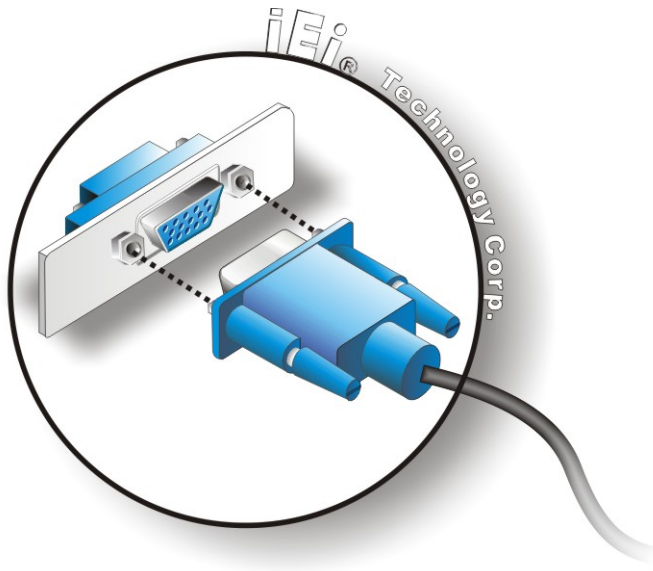

Figure 5-18: VGA Connector
- Step 5: Insert the VGA connector.** Once the connectors are properly aligned with the insert the male connector from the VGA screen into the female connector on the KINO-945GSE. See Figure 5-18.